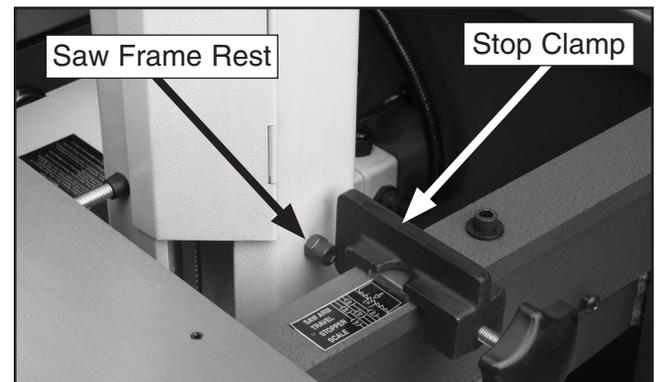

Figure 27. Saw frame locked forward.
2. Place the stop clamp behind the saw frame rest, as shown in **Figure 27**.